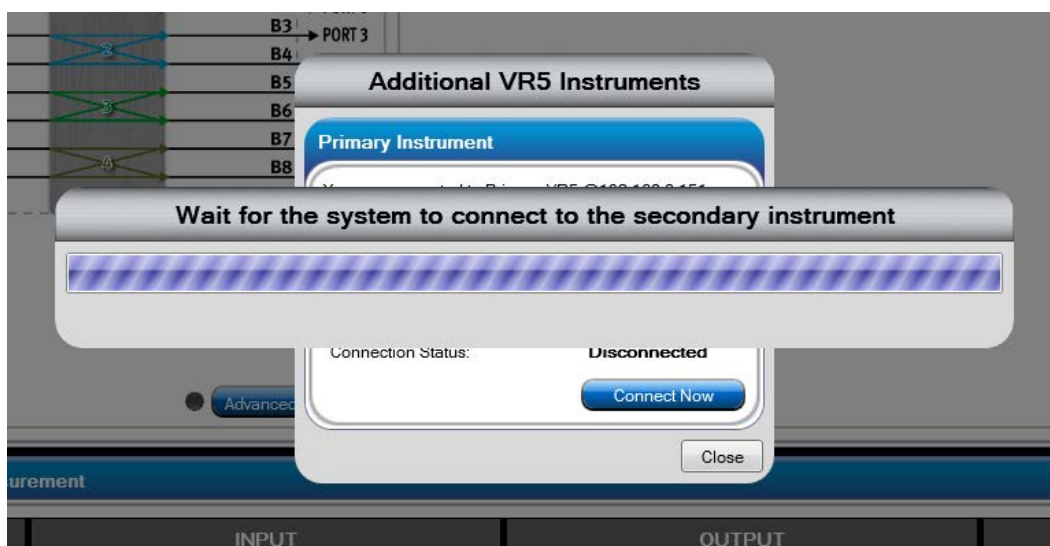

Figure 3-10: Connecting to Secondary Instrument Message
9. A message displays, as shown in Figure 3-10.